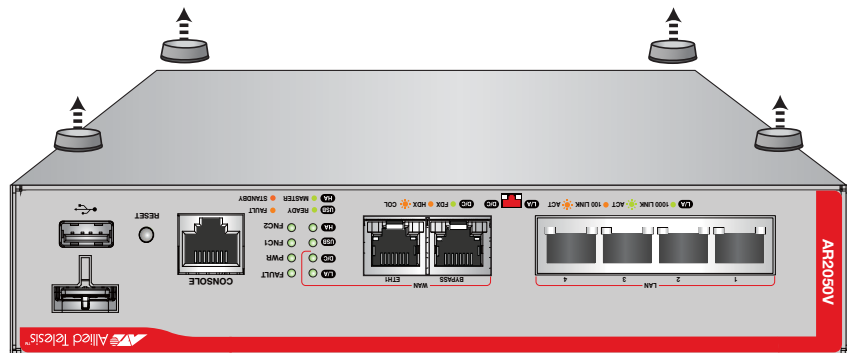

Figure 24. Removing the rubber feet
2. If rubber feet are attached to the base of the router, remove them by prising off with a flat-head screwdriver, as shown in Figure 24, then turn the router back over.